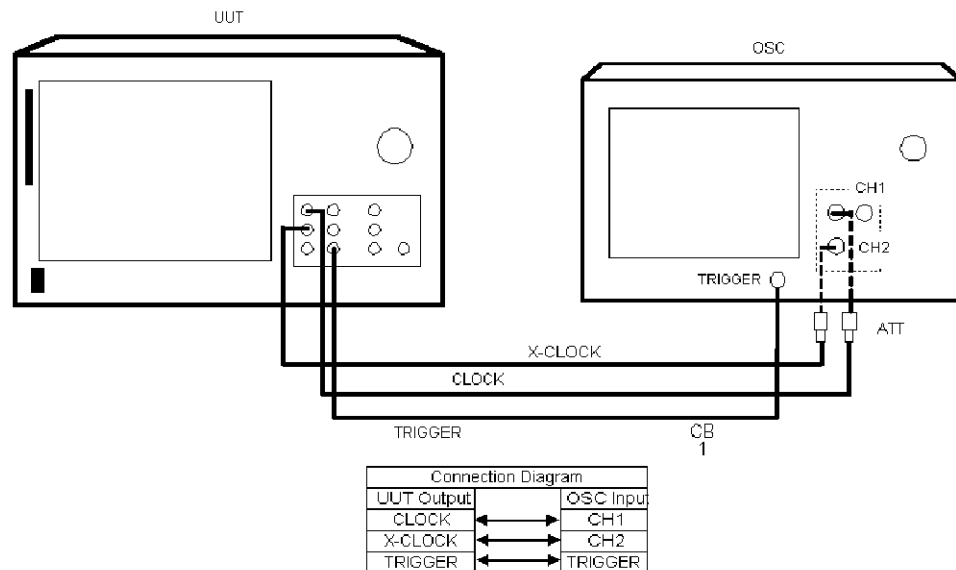

Figure 1-2 Setup of DATA/X-DATA Output Test
1. Connect equipment as shown in Figure 1-2.